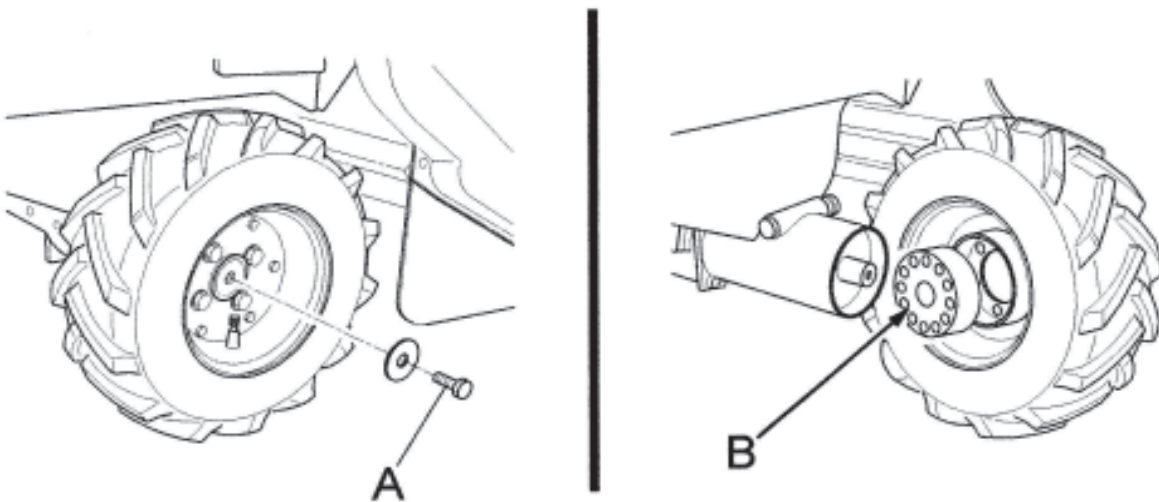

Figure 17
- Every 50 hours grease the wheel release devices, removing the centre screw shown in Fig. 17 (Ref. A). Remove the wheel completely from its hub, grease the exposed part (Fig. 17 Ref. B) and then remount the wheel.